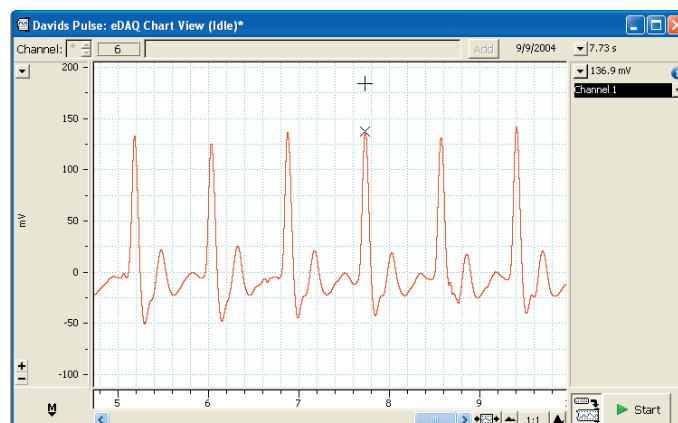

Figure 14. Measuring values with the Cursor.
2. Move the pointer from left to right: the cursor tracks the signal. As you do this, the values displayed at the top right of the window change. The top value (in the Rate/Time display) shows the time at the pointer (and cursor) location, and the value below (in the Range/Amplitude display) shows the amplitude of the signal at that time (Figure 14).